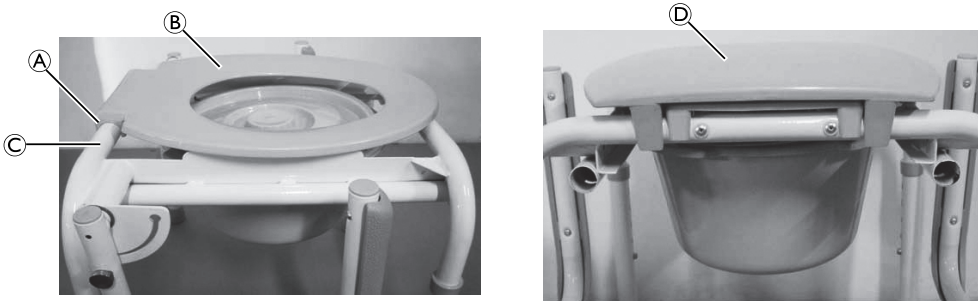

Fig. 4
1. Install the pail (A) onto the pail holder (B) in the commode frame (C).
2. Turn the pail so the tabs (D) keep the pail on the pail holder.
3.2 Installing/Removing the commode seat and lid (Fig. 4)